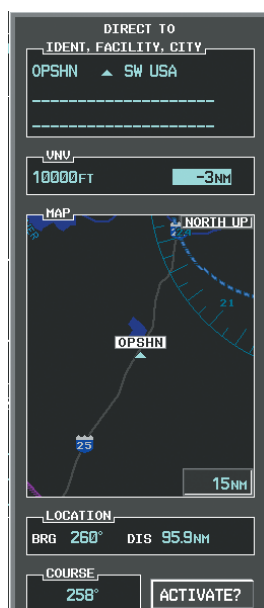

Figure 5-122 Enter VNV Offset Distance
- f) Press the **ENT** Key. The cursor is now displayed in the VNV offset field as shown in Figure 5-122.